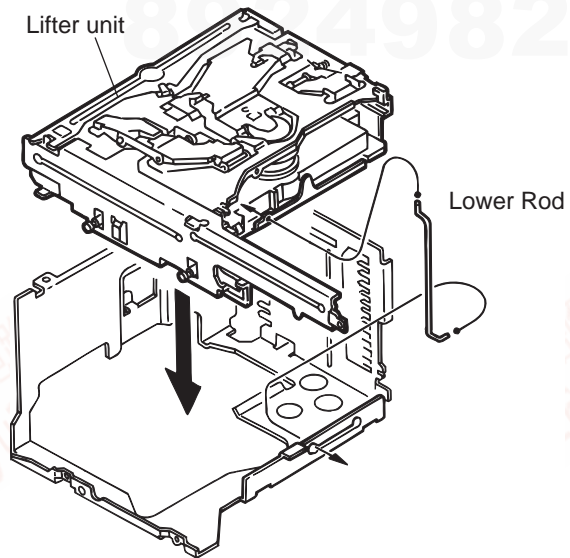

Fig.27
3.2.13.3 Connection of the chassis (L) assembly and chassis (R) assembly (See Fig.27 to 29)